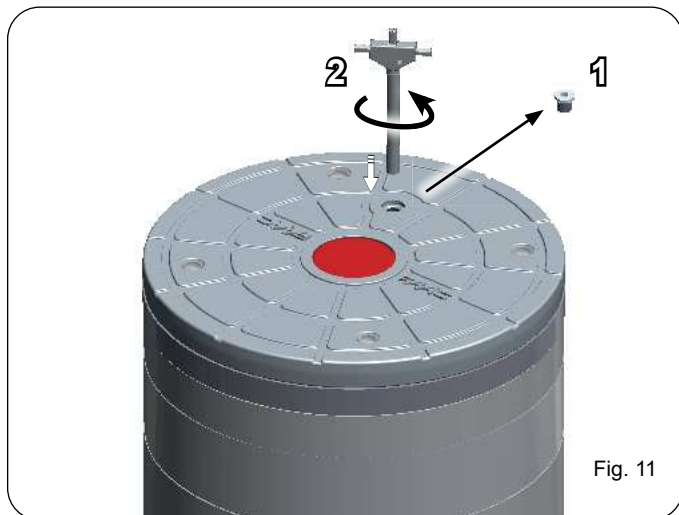

Fig. 11
1. Loosen the closing screw located on the bollard head (fig. 11 ref.1).
3. Turn counter-clockwise to lower the bollard (fig. 11 ref.2)